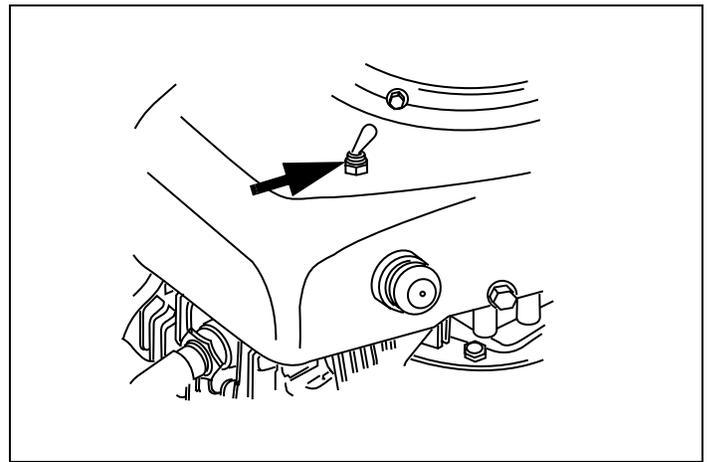

Figure 6. ON/OFF Switch
1. Be sure ignition switch on engine or equipment is in "ON", "RUN", or "START" position. See Figure 6.
2. Move switch to "ON" position. See Figure 6 on page 5. Afterward, continue reading instructions below.
- Move remote control on equipment, or engine mounted control, or any ignition stop switch on engine, to "STOP" or "OFF" position, if present (see equipment manufacturer's instructions). See Figures 6, 10 and 15 beginning on page 5. Afterward, continue reading instructions below.